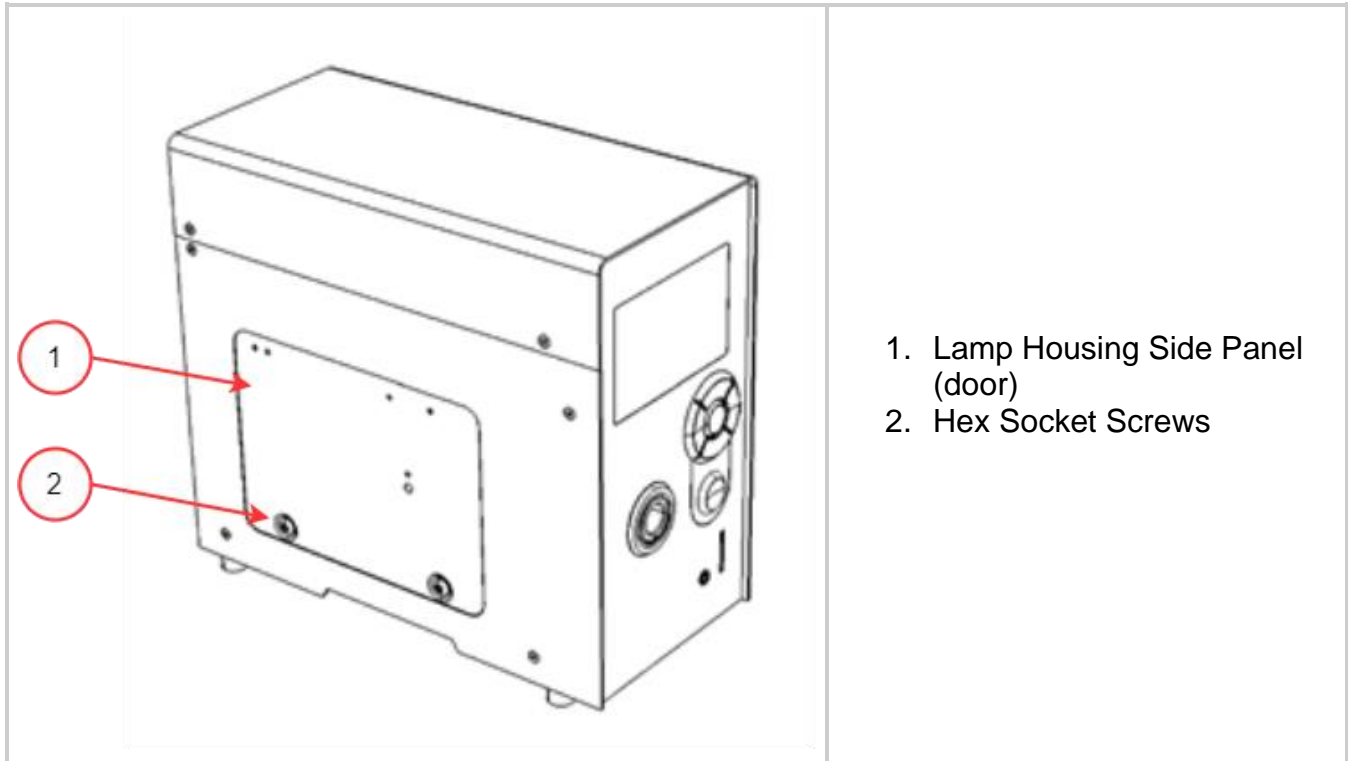

Figure 3-3 Lamp Housing Panel
2. Replace the lamp housing side panel (door) and tighten the fastening hex screws shown in **Figure 3-3**.